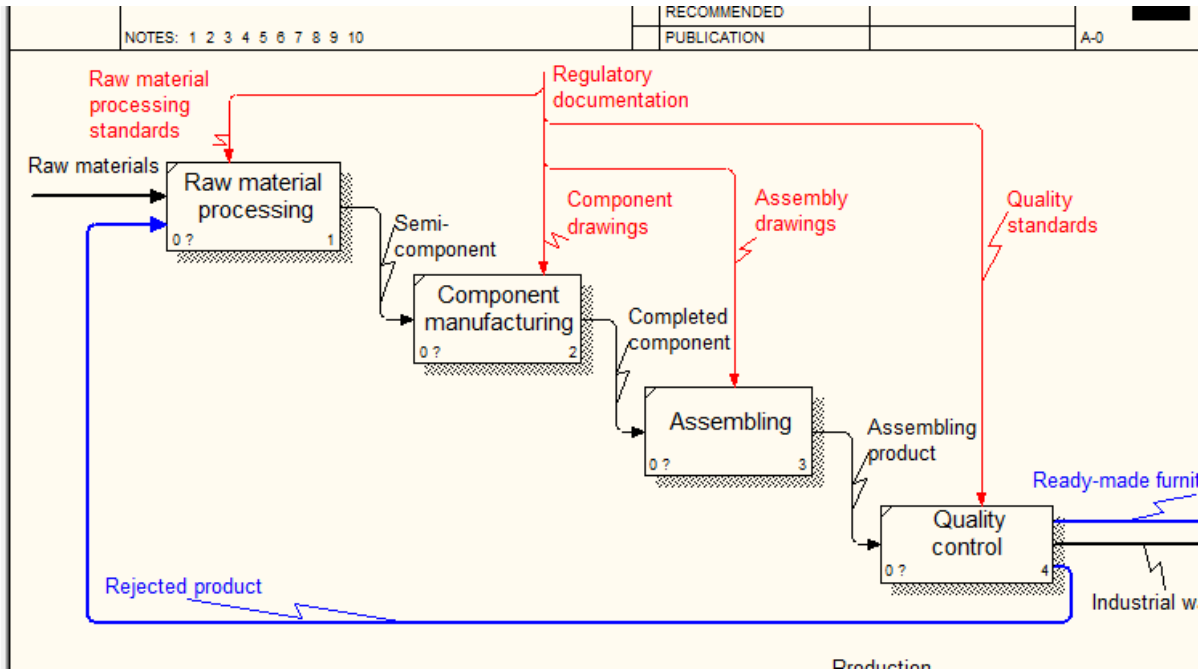

Fig. 2.6. *Regulatory documentation* arrow branches
5. Check your work (fig. 2.6).